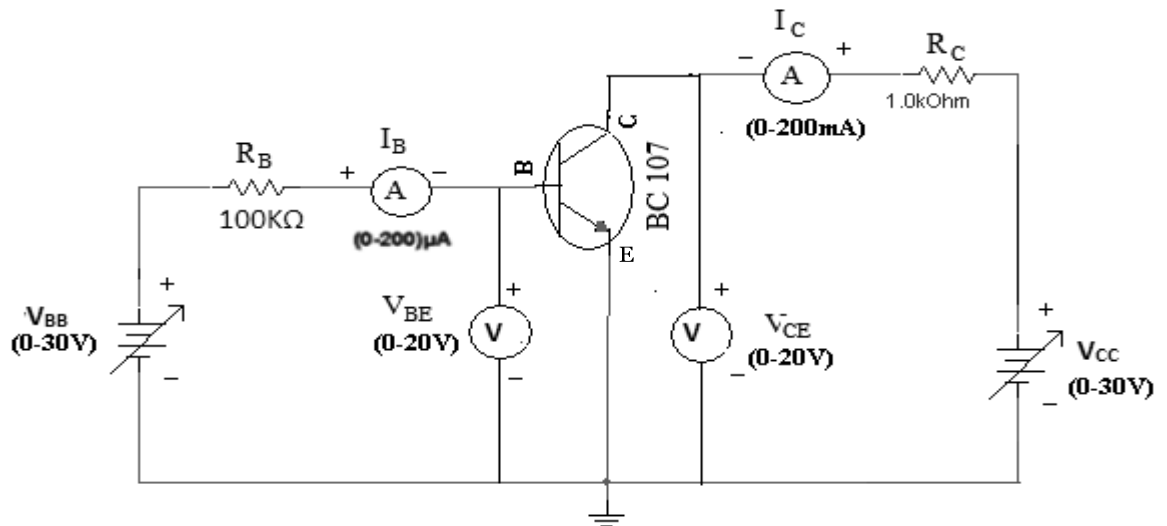

Figure 1: Circuit diagram of BJT in CE mode
1. Connect the circuit as shown in Figure 1.